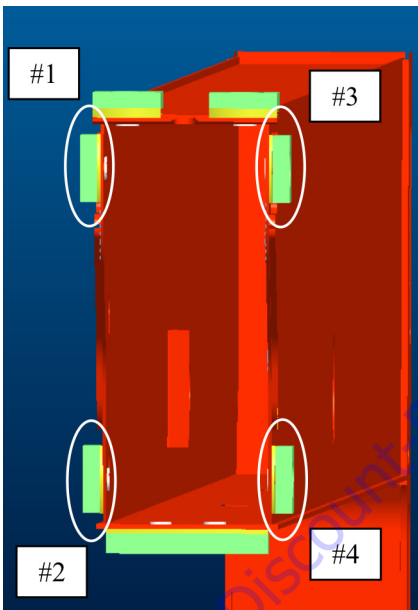
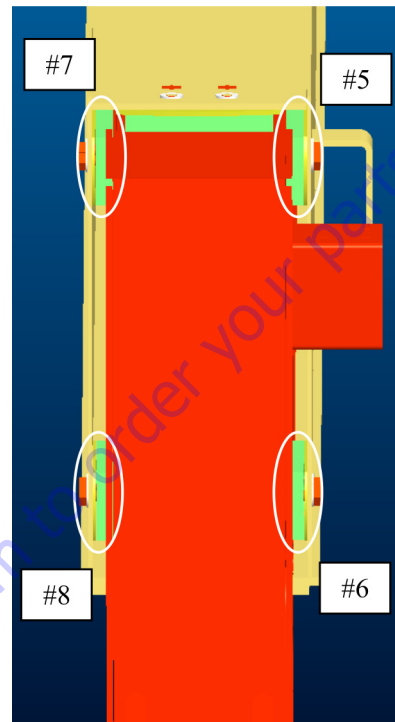

Figure 4-16. Fly Boom Wear Pads
Figure 4-17. Base Boom Wear Pads
7. Install side pads and shims in base boom. Distribute shims to each side to match distribution noted in Step 2. Positions #5/6 must match positions #1/2. Positions #7/8 must match positions #3/4 (See Figure 4-16. and Figure 4-17.). Verify no more shims will fit on either side.